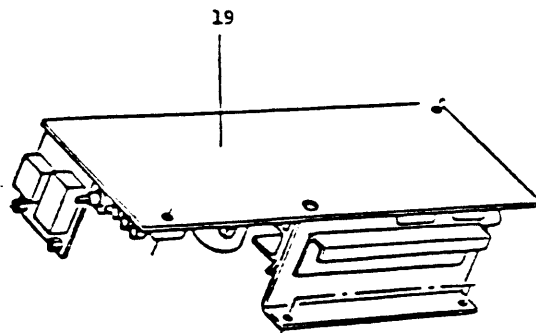

FIGURE 6.4 PWB Replacement
- (2) Unfasten screws 21, 22, 25 and 26 securing the PWB, and replace the PWB (FIGURE 6.4).